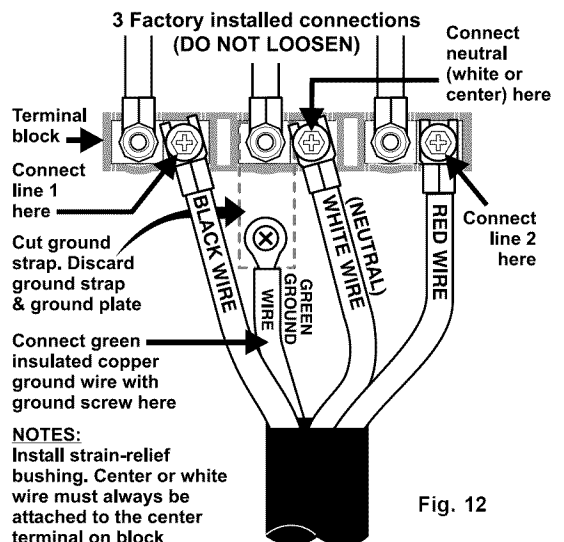

Fig. 12
(4-Wire Connection Instructions - Refer to Fig.12)
4. Connect the ground wire (Green) lead with the eyelet to the frame of the appliance with the ground screw using the same hole in the frame where the ground screw was originally installed (See Fig. 12).